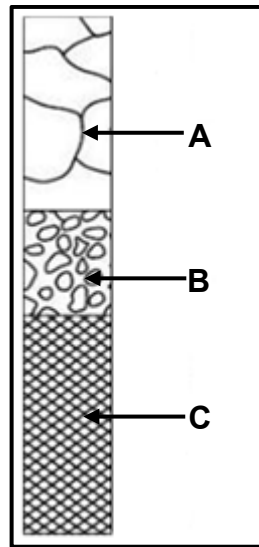

FIGURE 3.5
- 3.5 FIGURE 3.5 below shows the changes in metal structures during the annealing process. Label **A–C**.